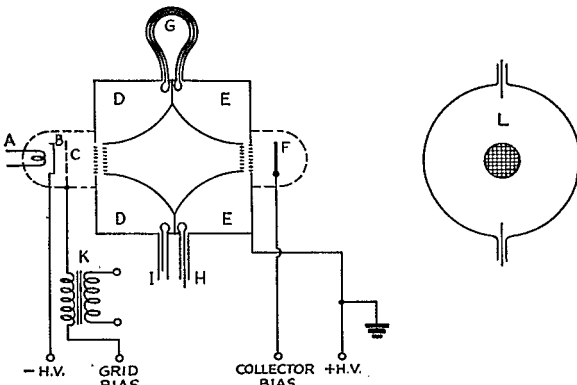

Fig. 3 — The Klystron oscillator in cross section. Letter designations are as follows:
Fig. 3 — (A) Lateral recording, as used in phonographic and most instantaneous recordings. The stylus cuts a groove of constant width and depth but moves from side to side in accordance with the frequency and amplitude of the signal being recorded.